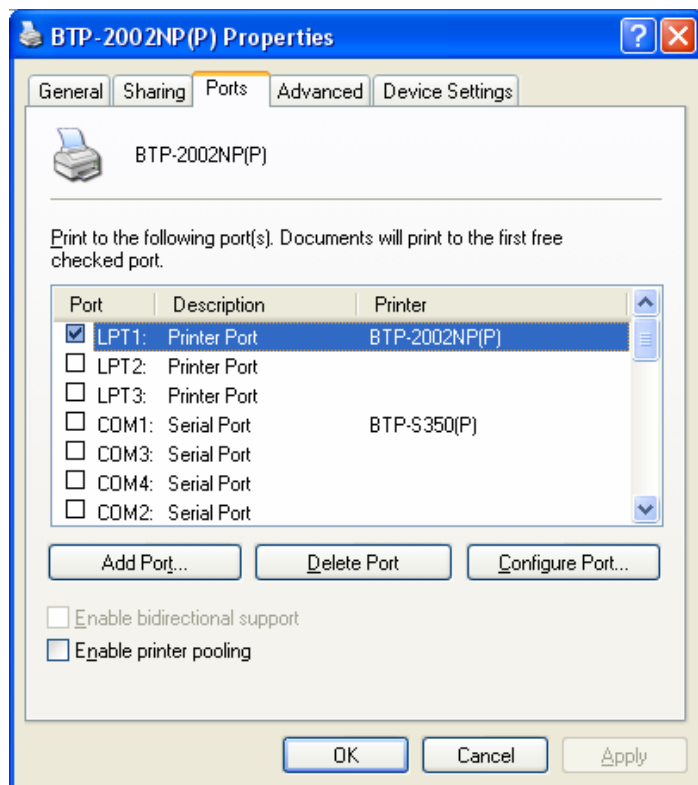

Figure 5.5.2 PORT properties column
- 2) Select "Ports" properties column as shown in Figure 5.5.2. If TCP/IP port isn't installed, click "Add port" button;